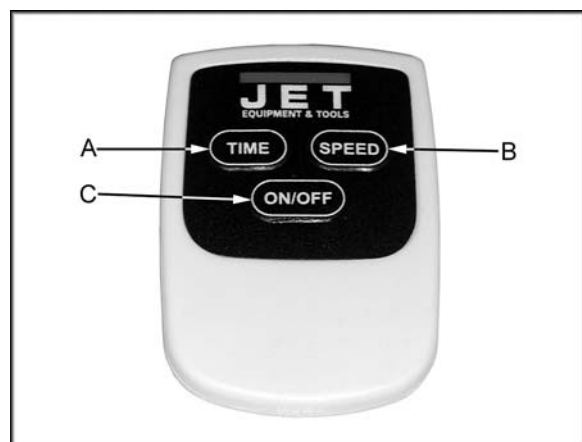

Figure 4
**Time** button (A, Fig. 4) controls the three different settings.
**Speed** button (B, Fig. 4) controls the three different settings, Low, Medium and High. There is also a manual button (A, Fig. 5) on the backside of this unit which controls the speed.
**On/Off** button (C, Fig. 4) turns the unit on and off. There is also a manual on/off button (B, Fig. 5) on the backside of the unit. Pressing this button will turn the machine on Low.